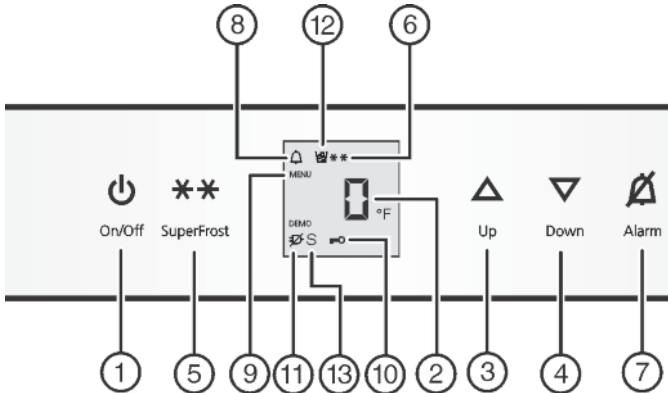

Fig. 2
- ▶ Press On/Off button *Fig. 2 (1)*.
- ▶ Activate setting mode: Press SuperFrost button *Fig. 2 (5)* for about 5 seconds.
- ▷ The Menu symbol *Fig. 2 (9)* lights up.
- ▶ Using Up button *Fig. 2 (3)*/ Down button *Fig. 2 (4)* select °.
- ▶ To confirm: Briefly press SuperFrost button *Fig. 2 (5)*.
- ▶ Using Up button *Fig. 2 (3)*/ Down button *Fig. 2 (4)* select °F or °C.
- ▶ To exit setting mode: Press On/Off button *Fig. 2 (1)*.
- ▶ Activate setting mode: press and hold the SuperFrost button *Fig. 2 (5)* for approximately 5 s.
- ▶ Using the Up button *Fig. 2 (3)* or Down button *Fig. 2 (4)*, select **c**.
- ▶ Press the SuperFrost button *Fig. 2 (5)* briefly to confirm.
- ▶ To switch on the child-proof lock, press the SuperFrost button *Fig. 2 (5)* briefly.
- ▷ The Child safety symbol *Fig. 2 (10)* lights up. **c** flashes on the display.
- ▶ To switch off the child-proof lock, press the SuperFrost button *Fig. 2 (5)* briefly.
- ▷ The Child safety symbol *Fig. 2 (10)* goes out. **c** flashes on the display.
- ▶ Deactivate setting mode: press the On/Off button *Fig. 2 (1)*.
- ▶ Press Alarm button *Fig. 2 (7)*.
At the same time, the Alarm symbol *Fig. 2 (8)* will flash.
The audible warning automatically ceases, the Alarm symbol *Fig. 2 (8)* goes out, and the temperature display
- ▶ To activate setting mode: Press and hold the SuperFrost button *Fig. 2 (5)* for approx. 5 s.